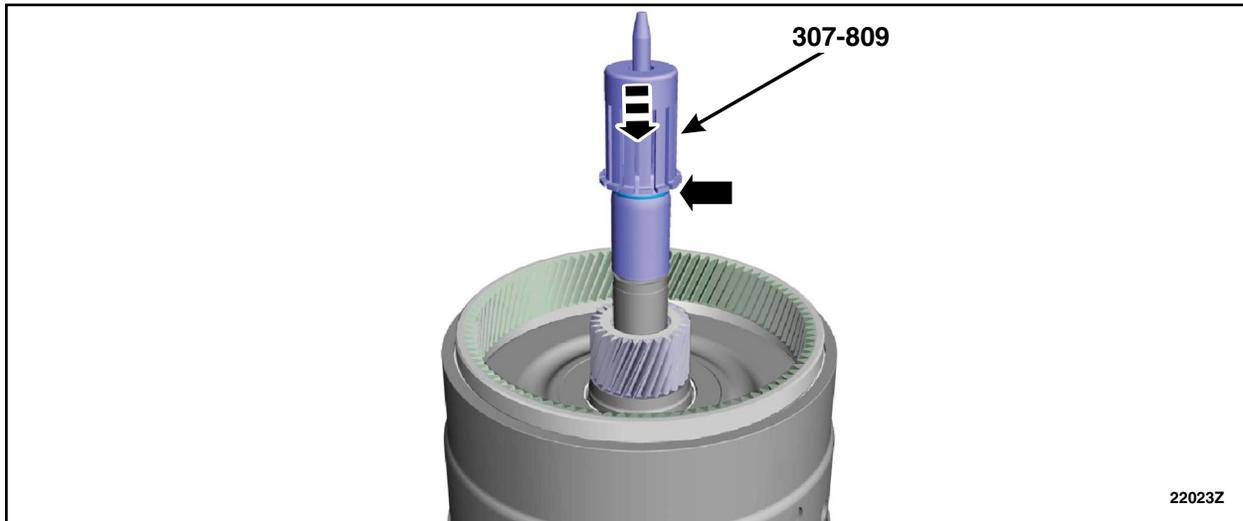

FIGURE 35
39. Using the top half of the Special Service Tool: 307-809 push & sizer, F0 Seal guide, slide the Teflon® seal into the groove. Remove the special tools and repeat the steps for the other 2 Teflon® seals. See Figure 35.